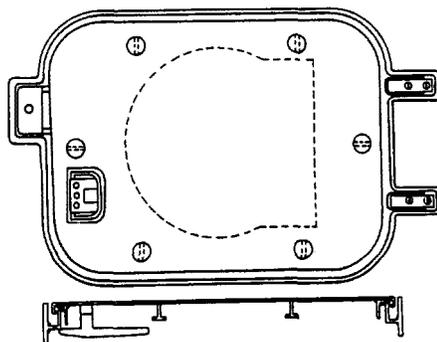

Figure 1-8. Flush Watertight Hatch
- h. Flush Watertight Hatches. (See figure 1-8.) These hatches are installed in areas such as flight decks, hangar decks, cargo decks, passageways, or areas of relatively high traffic where a flush deck condition is required to eliminate tripping hazards or to maintain a smooth trucking surface. Trough drains are required for flush hatches in weather decks.